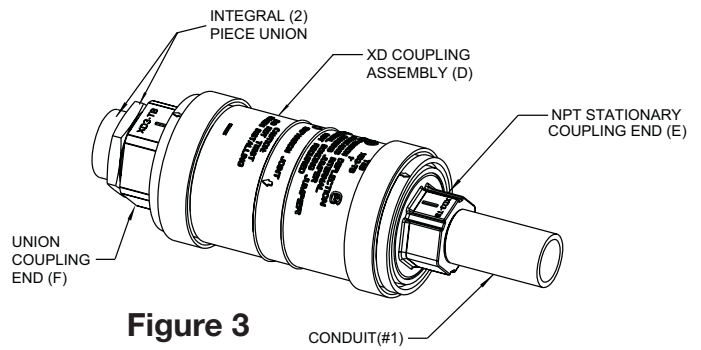

Figure 3
1. Thread NPT Stationary Coupling End (E) onto Conduit (#1) and hand-tighten. Finish tightening with a pipe wrench (wrench-tight). See Fig. 3. DO NOT tighten using Union Coupling End (F).
2. Disassemble integral (2) Piece Union from XD Coupling Assembly (D) by loosening and removing Union Nut (A). See Fig. 3 and 4.